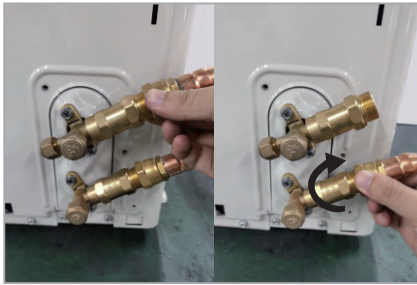

Fig.8
- Align the refrigerant pipes correctly so that they line up with the valves and are not stressed. Place the screw connector on the refrigerant pipes just on to the thread on the outdoor unit and tighten the first few threads by hand, Fig. 8.